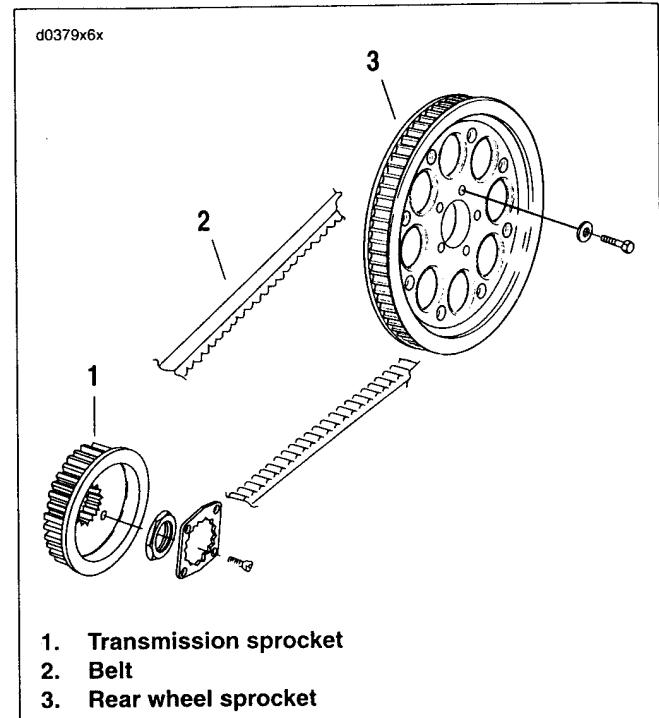

Figure 6-30. Belt and Transmission Sprocket
5. See Figure 6-30. Slip drive belt (2) from transmission sprocket (1).
1. See Figure 6-30. Install belt (2) over transmission sprocket (1).